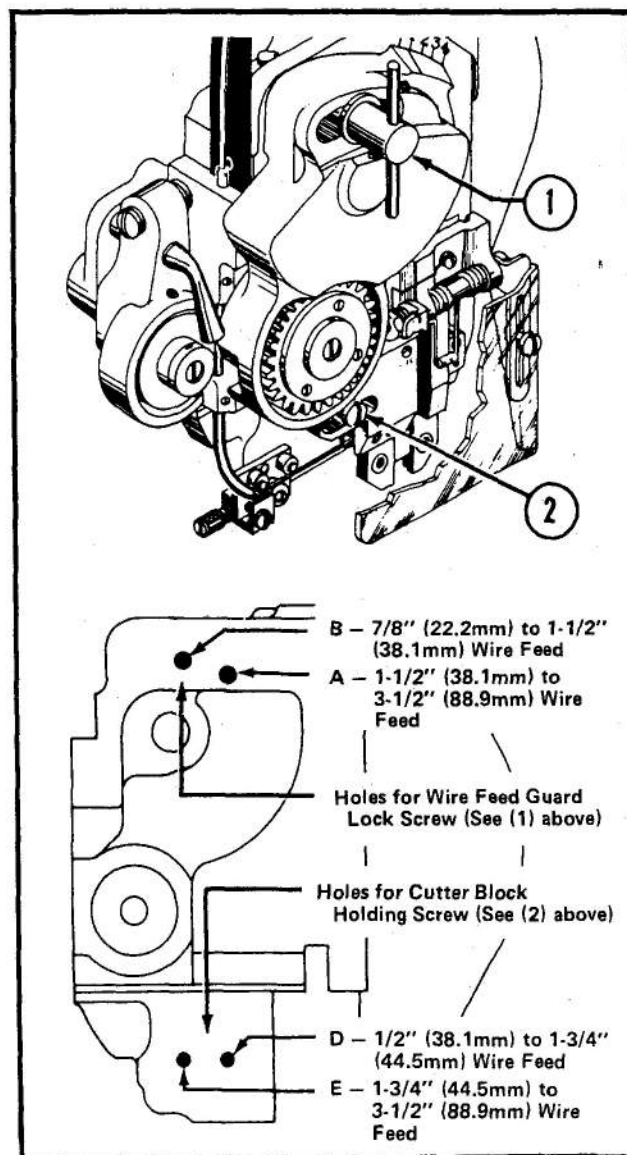

Figure 7—Positioning Wire Feed Lock Screw and Cutter Block Holding Screw
1—Check that the wire feed guard lock screw (1) and cutter block holding screw (2), Fig. 7, are in the correct head plate holes for the desired wire draw. The standard and long wire draw head plates have two tapped holes, (A) and (B), Fig. 7. Both types of head plates have two tapped holes, (D) and (E), for insertion of the cutter block holding screw. If the desired length of wire draw approaches the minimum or maximum limits for the head being operated (refer to Wire Draw Table, Fig. 4) it may be necessary to relocate the wire feed guard lock screw and cutter block holding screw.
The following table (Fig. 8) indicates the correct hole locations for the two screws to obtain the minimum or maximum wire draw for each type of head. The diagram in Fig. 7 shows the four holes and gives the obtainable wire draw range for each hole.
2—If it is found necessary to relocate the wire feed guard lock screw, (1) Fig. 9, and cutter block holding screw (2), remove both screws, and then shift the wire feed guard casting, (3) sufficiently to the left or right, as required, so that the wire feed guard lock screw (1) can be inserted into the alternate hole (A, or B, Fig. 7); do not tighten screw at this point.
3—The standard wire draw head is so designed that the cutter block, (4) Fig. 9, automatically shifts to the left or right when the wire feed guard is shifted. If head being operated is this type, relocate the cutter block holding screw (2) in its alternate hole (D or E, Fig. 7), and tighten screw securely. If head being operated is the long type (Model BHOL or BHL485), the cutter block must be shifted manually. Move cutter block, as required, and relocate holding screw and washer (hex head screw and washer used on long draw heads only); do not tighten screw at this point.